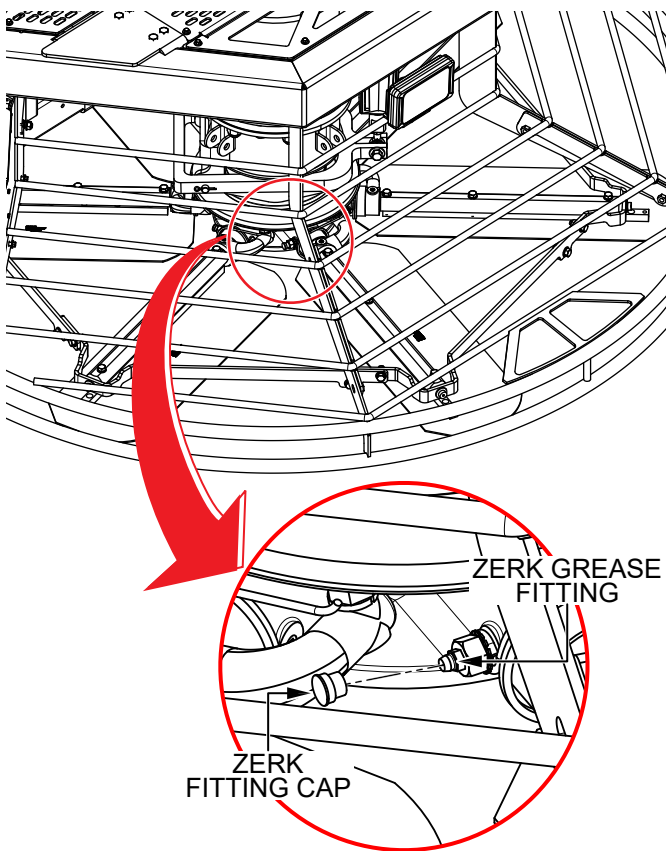

Figure 66. Spider Lubrication
1. Locate one of the Zerk grease fittings on either spider assembly (Figure 66). Remove the Zerk fitting cap and set it aside.